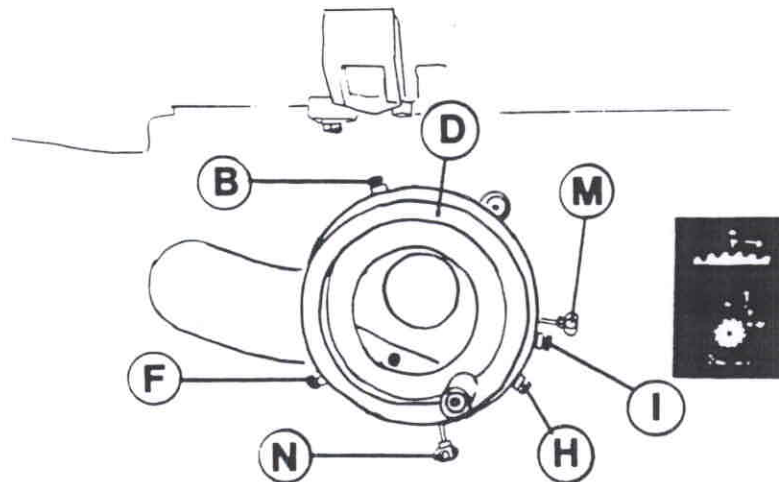

Fig.31
- Loosen handle (M fig.31) and turn it counterclockwise to stop (B)
- Stop (B) may be positioned round disk (D) by loosening its knob
- Loosen handle (N) and turn it until the scorer is aligned with main saw: try with cutting test
- Lock handle (N) and position end stop (Fig.31) against it
- End stops (B,F,H,I) are reference stops to obtain the best working conditions when you have to fit the scorer again. The two fixed end stops on disc (D) limit the movement of handle (N): in this way the scorer does not come in contact with the worktable or with the rolling table.